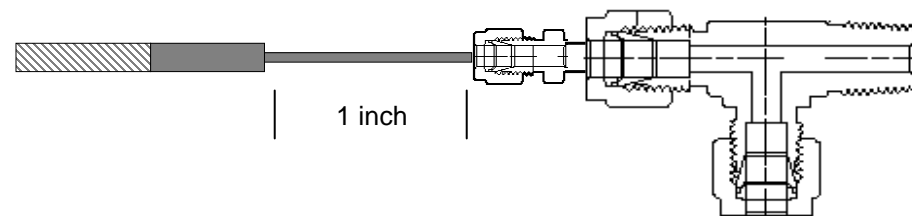

Figure 5: Inserting the thermocouple into the Tee-Fitting
3. Insert the thermocouple into the reducer as far as it will go, then pull it back 1 inch. Tighten the lock nut finger tight and then tighten 1 ¼ turns with a 7/16" wrench (Figure 5). If necessary, the thermocouple may be bent **ONCE** to avoid any interference. Do not bend the thermocouple past 90 degrees.